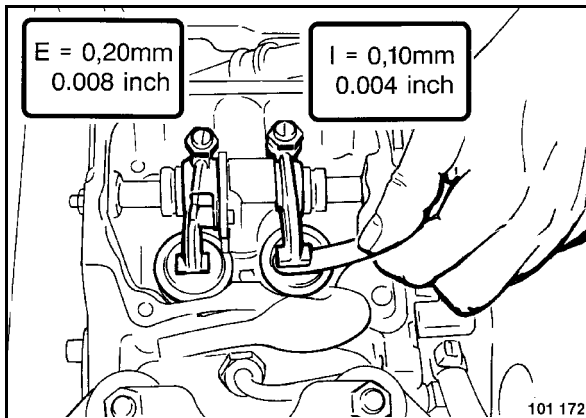

Fig. 59
- Check the valve clearance with a feeler gauge on both valves (Fig. 59).